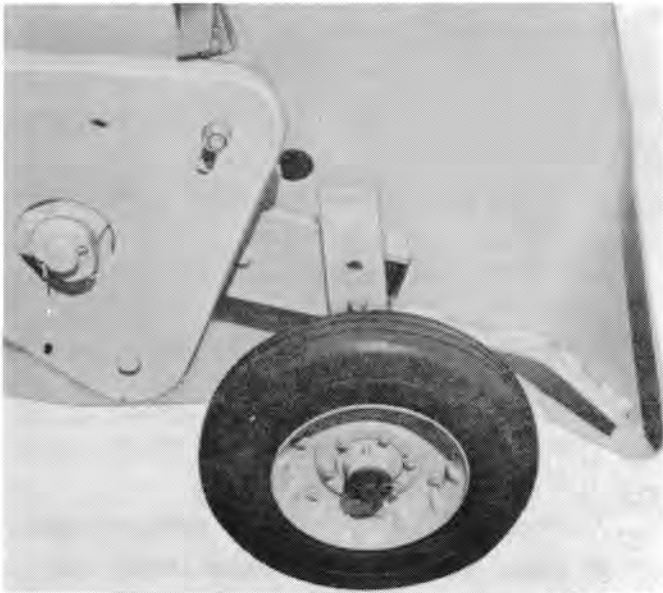

FIGURE 57
**PICKUP WHEEL** — See Figure 57. The pickup wheel guides the pickup over rough and irregular ground.